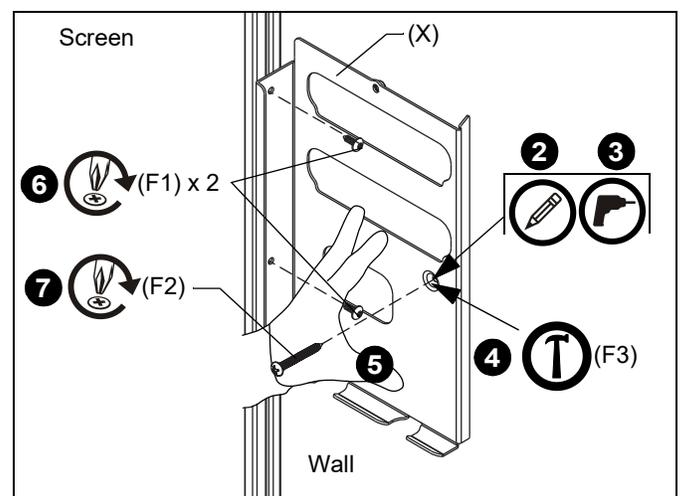

Figure 50
- Place control pad bracket (X) against wall and screen and mark location of wall fastener. (See Figure 50)
- Remove control pad bracket (X) from wall and drill pilot hole at marked location.
- Insert anchor (F3) into pilot hole using a hammer. (See Figure 50)
- Place control pad bracket (X) against wall, matching up pilot hole and anchor with mounting hole in bracket.
- Fasten side of control pad bracket (X) against screen using two #8 x 1/2" Phillips head screws (F1). (See Figure 50)
- Fasten bracket to wall using on #8 x 1-1/2" Phillips head screw (F2). (See Figure 50)